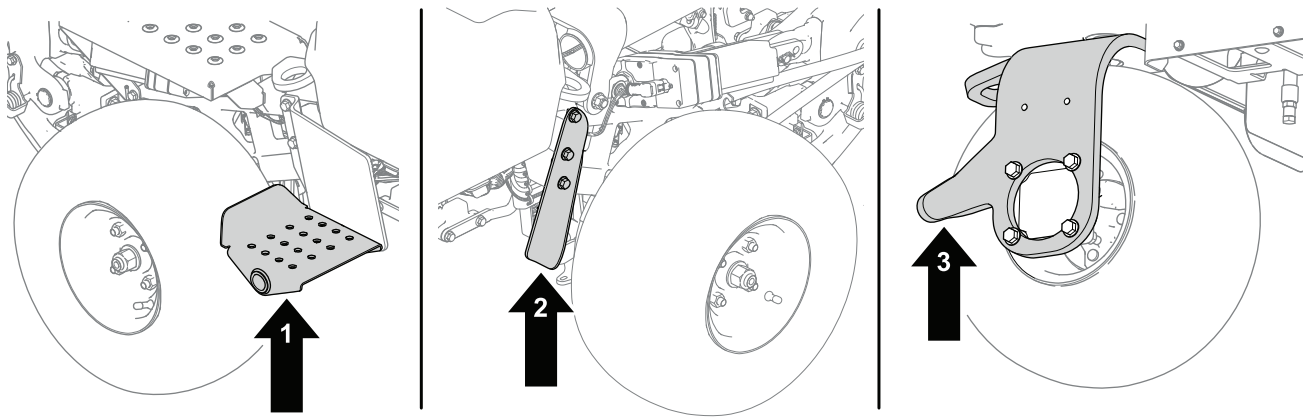

Figure 43
1. Position a jack at the desired jacking point (Figure 43):